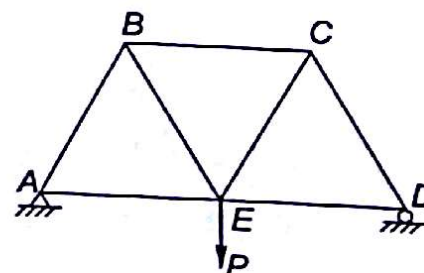

Fig. 9.29
- 9.8 A simple truss consisting of 3 equilateral triangles is shown in Fig. 9.29. Using the principle of virtual work, determine the force in the top member BC of the truss.